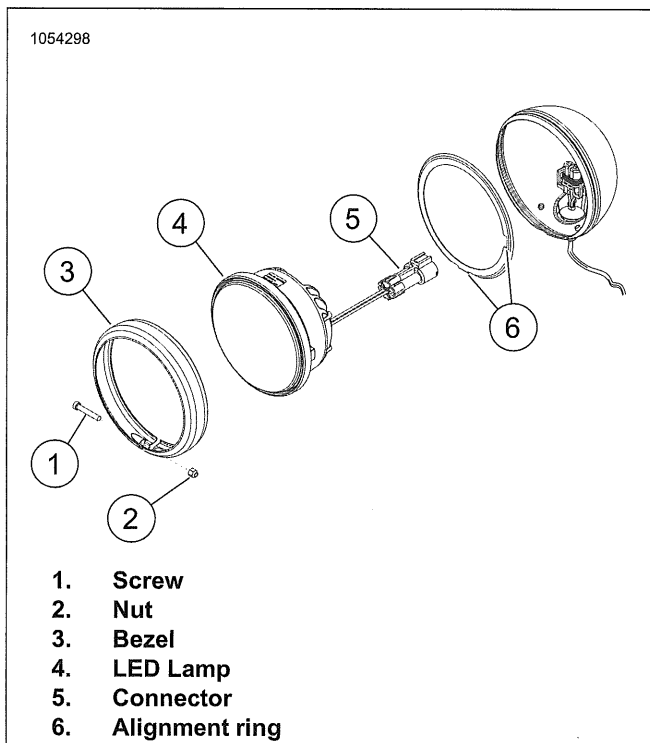

Figure 7-61. LED Auxiliary Lamp
1. See Figure 7-61. Remove screw (1) and nut (2).
2. Remove bezel (3).
3. Remove LED lamp (4).
4. Disconnect connector (5).
1. See Figure 7-61. Connect connector (5).
2. Install LED lamp (4) in alignment ring (6).
3. Install bezel (3).
4. Install screw (1) and nut (2). Tighten.